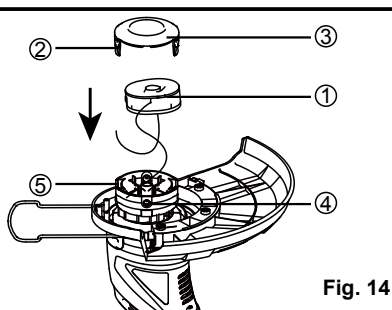

Fig. 14
- Place the new spool into the housing, Rotate the spool slightly until it is seated (Fig. 14).
- Unclip the end of one of the cutting lines and guide the line into one of the eyelets ④. The line should protrude approx. 4 inches from the spool housing.
- Align the tabs ② on the spool cover with the cut outs ⑤ in the housing.